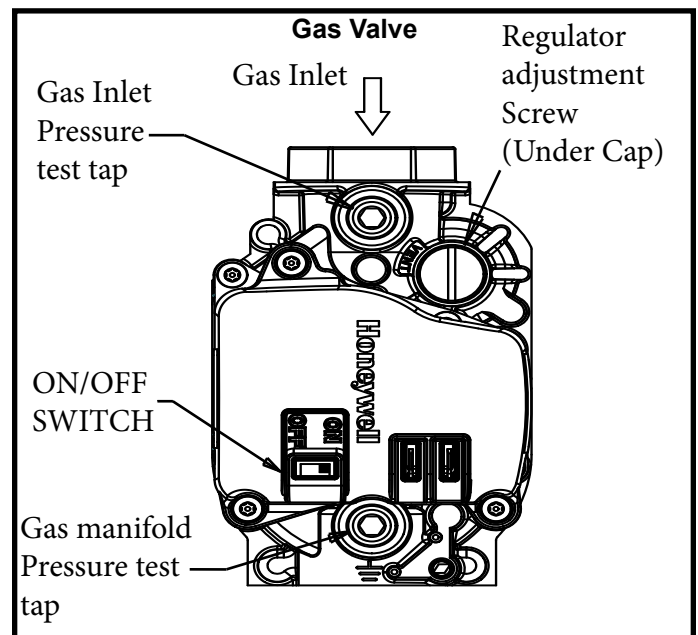

Figure 1
4. Move the gas valve switch to "ON" position (see Figure 1).